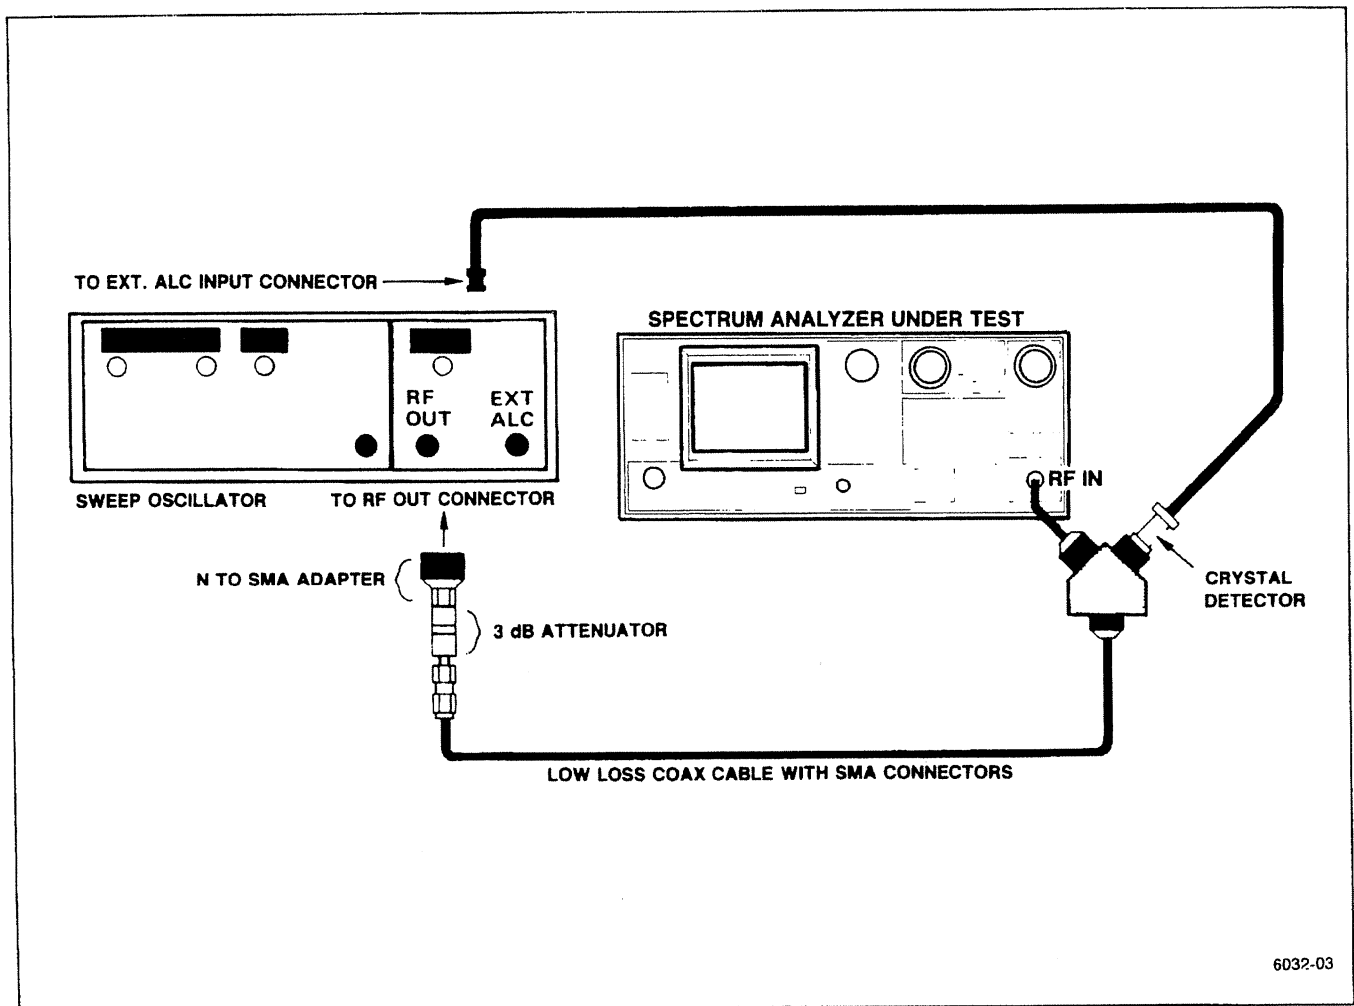

Figure 4-11. Test equipment setup for measuring 0.01 GHz to 21 GHz frequency response.
(3) Set the CAL AMPL adjustment for 5 divisions on the Spectrum Analyzer display. This is the 100 MHz reference. Activate SAVE A to save the reference.
(4) Connect the test equipment as shown in Figure 4-11.
(5) Set the sweep oscillator controls for a cw output that matches the SAVE A display (output frequency of 100 MHz and an output amplitude of approximately -20 dBm).
(6) Deactivate SAVE A. Reset the CENTER FREQUENCY to 500 MHz, and SPAN/DIV to 100 MHz, and activate MAX HOLD.
(7) Reset the sweep oscillator controls for a sweep output from 0.01 GHz—1 GHz. Enable single sweep on the sweep oscillator.
(8) Check that amplitude deviation from the 100 MHz reference does not exceed ± 2.5 dB.
(9) Make a note of the highest and lowest peaks for later comparison.
(10) Deactivate MAX HOLD, and repeat parts 6 through 10 for a CENTER FREQUENCY of 1.4 GHz (1 GHz to 1.8 GHz).
(11) Calculate the halfway point between the highest and the lowest peak from the peak data noted in parts 9 and 10.
(12) Check that swept frequency flatness is within ± 1.5 dB in Band 1.
(13) Switch the Spectrum Analyzer to Band 2 (<SHIFT> BAND Δ), CENTER FREQUENCY to 2.7 GHz, and SPAN/DIV to 200 MHz.
(14) Reset the sweep oscillator controls for a sweep output from 1.7 GHz—3.7 GHz. Enable single sweep on the sweep oscillator.